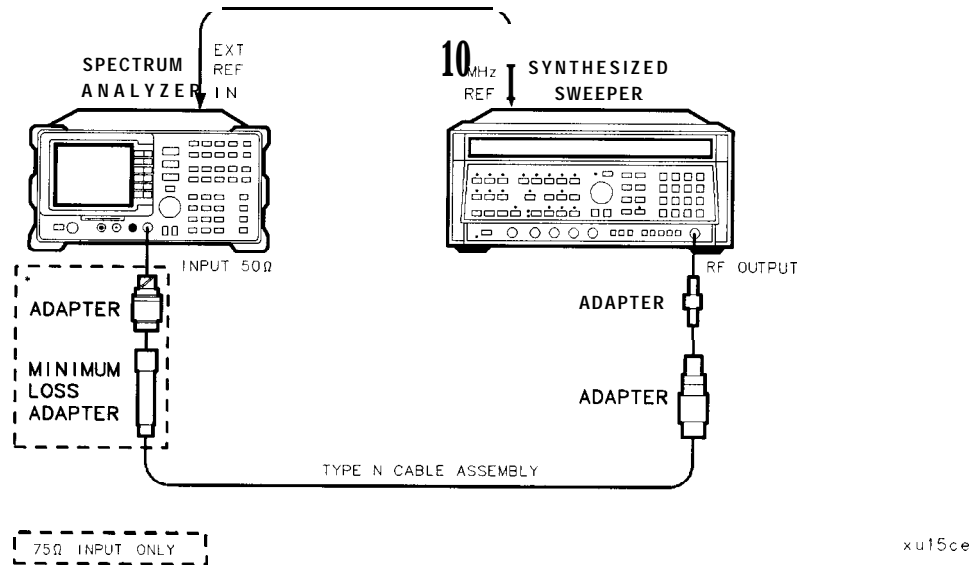

Figure 2-4. HP 85913 and HP 8591C Frequency Readout Accuracy Test Setup
1. Connect the equipment as shown in Figure 2-4. Remember to connect the 10 MHz REF OUT of the synthesized sweeper to the EXT REF IN of the spectrum analyzer.